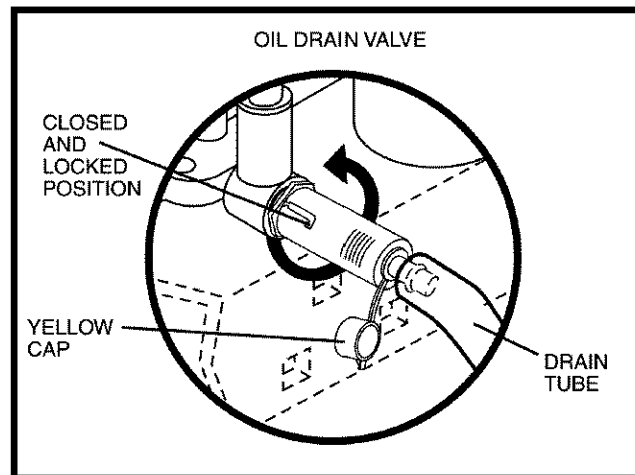

FIGURE 9
TO CHANGE ENGINE OIL (See Figs. 9). Determine temperature range expected before oil change. All oil must meet API service classification SF-SJ.
- After the oil has drained completely, close and lock the drain valve by pushing inward and turning clockwise until the pin is in the locked position as shown (Figure 9).